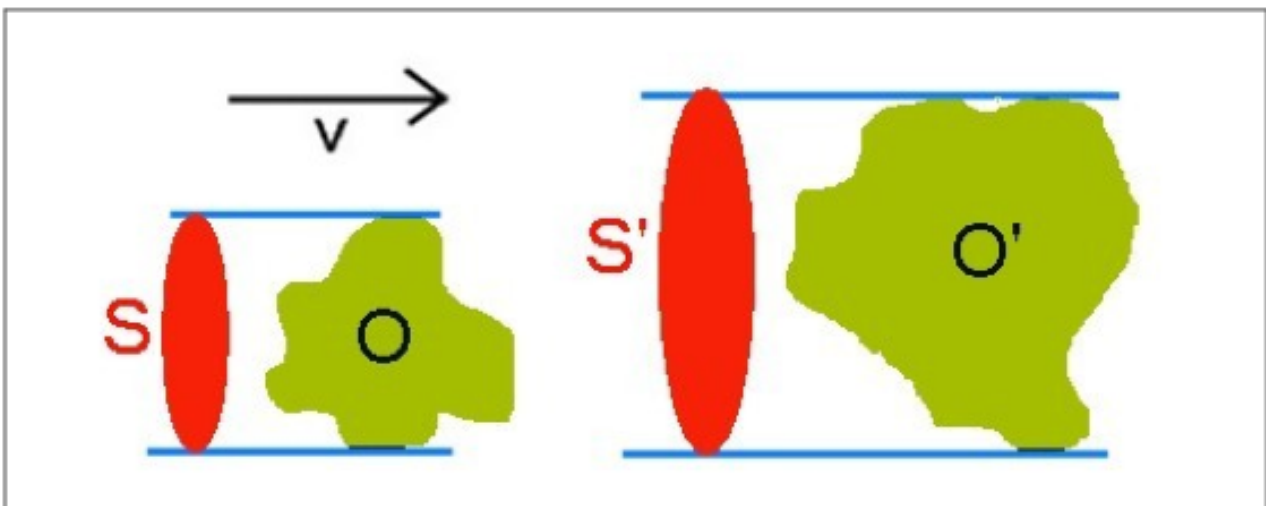

Figure A9: The surface S of the object O in wind V is smaller than the surface S 'of the object O' itself greater than O.
4 factors influence the drag of an object: (1) The surface area of the object exposed to the wind (2) wind speed, (3) the air density and (4) the shape of the object . There are no other significant factors. Note however that the exposed surface depends on the size of the object. See Figure A9 and **question 006**. None of the following influence the drag: the weight, density (or specific gravity), mass, molecular construction or the material of the object, humidity, dew point, air temperature or pressure gradient (**questions 006, 014, 023, 032, 041**). For **question 041**, the proper response; "surface characteristics" includes both the object's surface exposed to the wind and the shape of the object.
(1) Exposed Surface: The exposed surface perpendicular to the direction of the wind thus depends on the volume and size of the object. The greater the exposed surface, the greater the. See Figure A9. (**Question 006**).